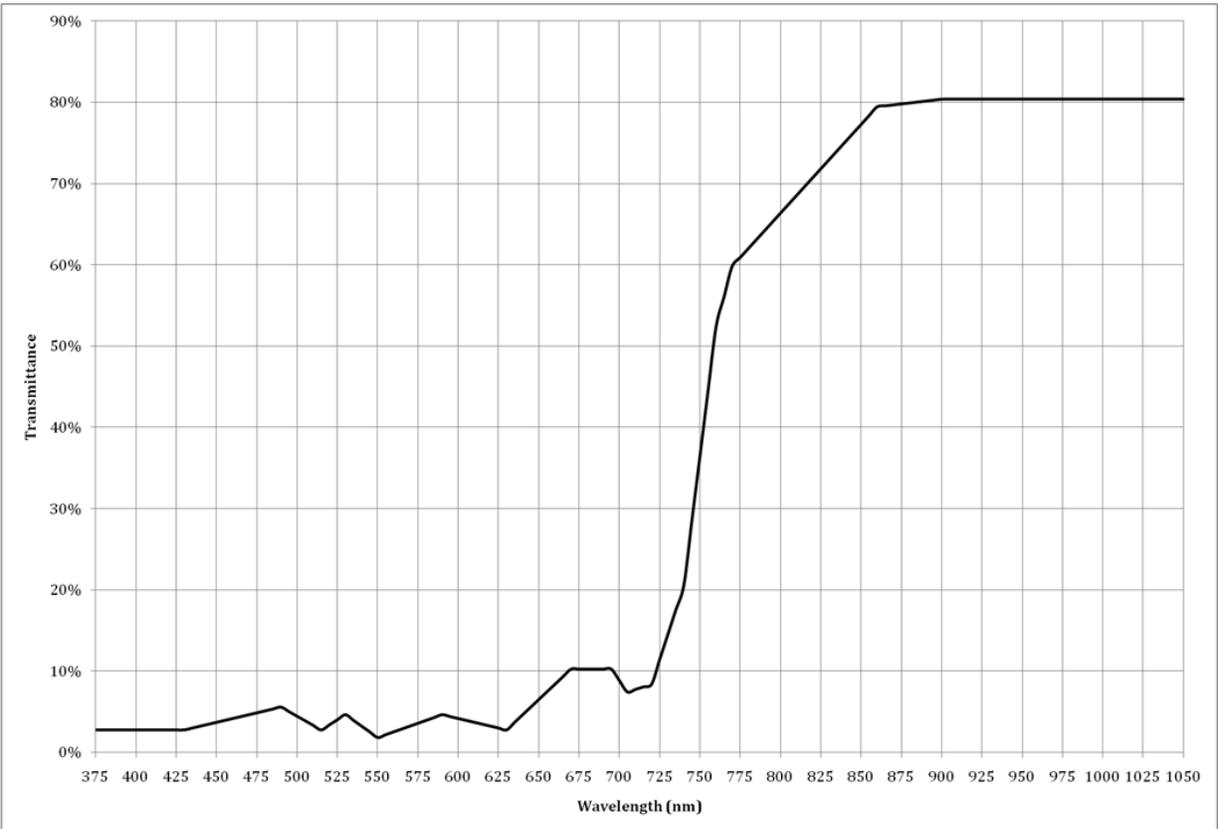

Figure 1. Spectral Response of Teikoku's MRX IR Black Ink, Single Layer over Polycarbonate
Another option for opaque color is to silkscreen an opaque ink over clear polycarbonate or tempered glass. Their less-than-perfect cutoff characteristics are advantageous with respect to the visible-to-infrared balance needed for simultaneous ALS and proximity detection. Screen ink manufacturers include Nazdar, Seiko Advance Ltd., and Teikoku Printing Inks Mfg. Co., Ltd. Figure 1 shows an approximate spectral response of a single layer of Teikoku's MRX IR Black on clear polycarbonate. Many other combinations of visible color and infrared transparency are available from ink vendors.
- Updated Figure 1 on page 2.